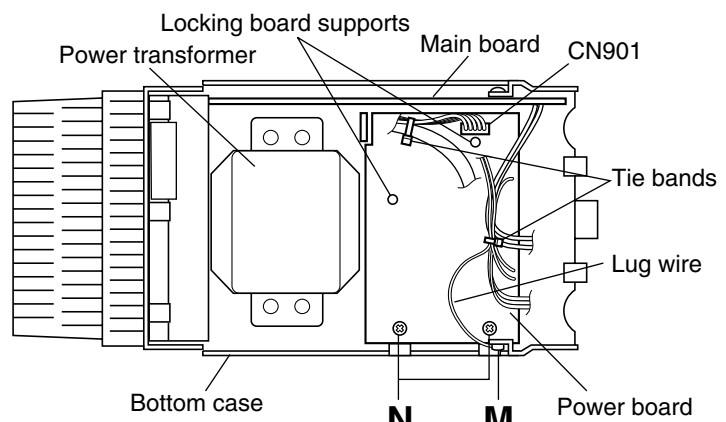

Fig.16
■ Removing the power board (See Figs. 16 and 17.)
1. Disconnect the wires from the connector CN901 on the power board. (See Fig.16.)
2. Remove the tie bands bundling the wires. (See Fig.16.)
3. Remove the screw **M** retaining the lug wire. (See Fig.16.)
4. Remove the two screws **N** retaining the bottom case. (See Fig.16.)